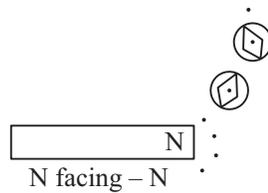
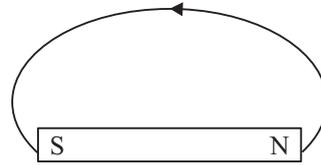

Fig. 28.5
Fig. 28.6
- (i) To determine the voltage gain A produced by the transistor with 1 k ohm load resistance  $R_o$ , connect the circuit as shown in Fig. 28.6. Keep the wiper of rheostat at zero. Keep  $R_i = 4 \text{ k ohm}$ .
- (ii) Take a small compass box. Place it near the N-pole of the bar magnet with its pointer pointing towards the pencil dot marked near the N-pole (Fig. 28.5). Mark the dot on the other side of needle. Move the compass box to the second marked dot, again mark a dot near the far end of needle. Repeat this process till you reach the S-pole. You will get a chain of dots which can be joined by a smooth curved line, as shown in Fig. 28.6.